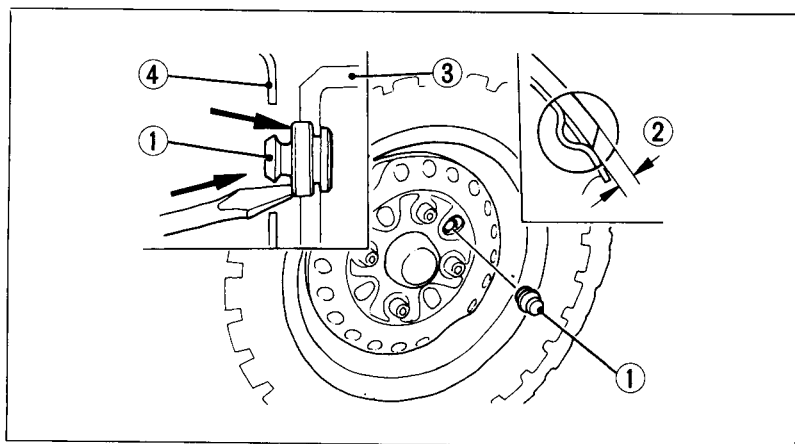
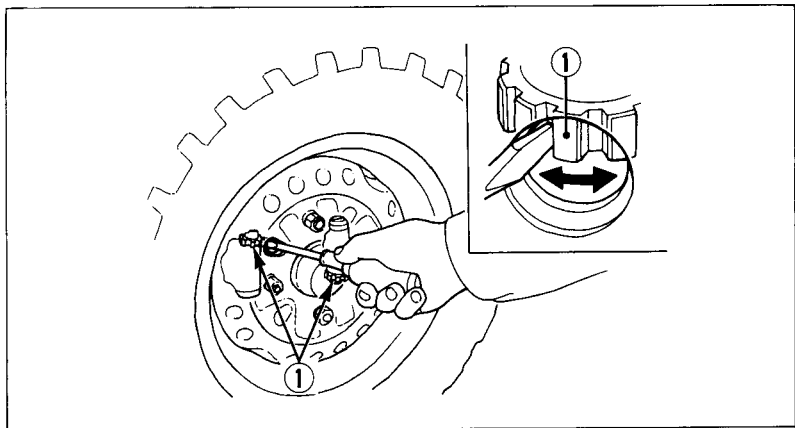

Fig. 4-22
Fig. 4-23
3. If the brake lever free play and the brake shoe lining thicknesses are within the recommended limits, reinstall the inspection hole plugs, seating them into the inspection holes as shown in Fig. 4-22.
3. Beginning with either the left or right front wheel, remove the inspection hole plug (Fig. 4-22) and line up the hole with one of the brake adjusters (Fig. 4-23).
4. Using a screwdriver, turn up the brake shoe adjuster (1) until the front brake locks.
(1) Brake adjusters
7. Reinstall the inspection hole plug, seating it into the inspection hole as shown in Fig. 4-22.